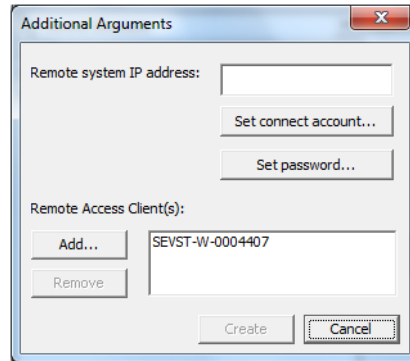
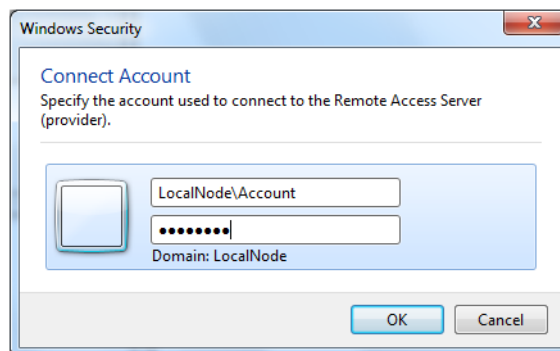

Figure 16. Configuring the Connect Account
Figure 17. Connect Account
2. Enter the Name, and click **Next**, the system displays Additional Arguments dialog, see Figure 16. The name given for the Remote System object will be presented in faceplates, process displays, alarm lists, trends, and history logs.
3. Enter the Remote system IP address, and click **Set Connect Account** to configure the Connect Account. The user specified should be a local user, or a domain user. Domain user can be used when the provider and subscriber system belongs to the same Windows domain. The provider and subscriber belongs to different Windows domains, or workgroups, then a local user is specified. The local user should exists both in the provider and subscriber system with the same user name and password, see Figure 16 and Figure 17.
5. Click **Set Password**, see Figure 16. Password only have to be set if encryption is used.
7. Click **Add** (Remote Access Clients), and click **Create**, see Figure 16.